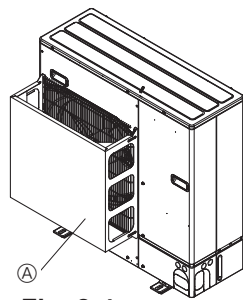

Fig. 2-4
- ② Install an optional air outlet guide and air guide if the unit is installed in a location where strong winds from a typhoon, etc. may directly enter the air outlet. (Fig. 2-4)